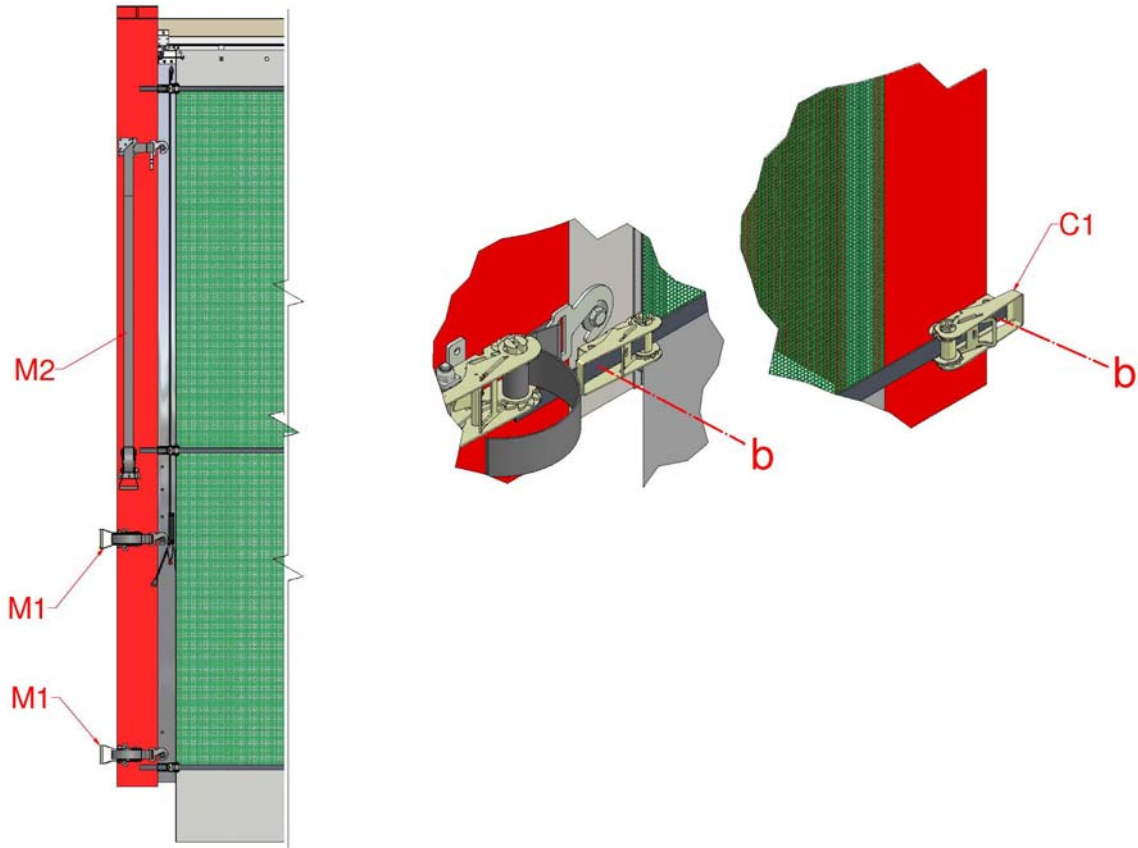

Figure 9, Fitting the Ratchets
11. Ensuring the screen is square (90°) to the line of the tracking, align the 25mm ratchets (C1) with the webbing straps on the screen and fasten them to the sliding post with the M5.5x32 self-drilling screws (b) supplied. Repeat the process at the fixed building end with your own fastenings for the ratchets, Figure 9.
12. Insert the 50mm webbing and hooks (M1/M2) into the ratchets. Pull the sliding post up to the building face; attach the hook to the locating studs and tension with the 50mm ratchets, Figure 9.